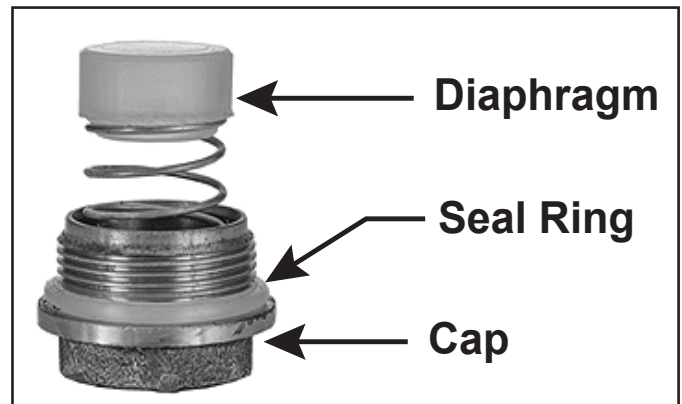

Figure 29. Check valve components.
5. Inspect seal ring and diaphragm (see **Figure 29**) for damage or dirt.